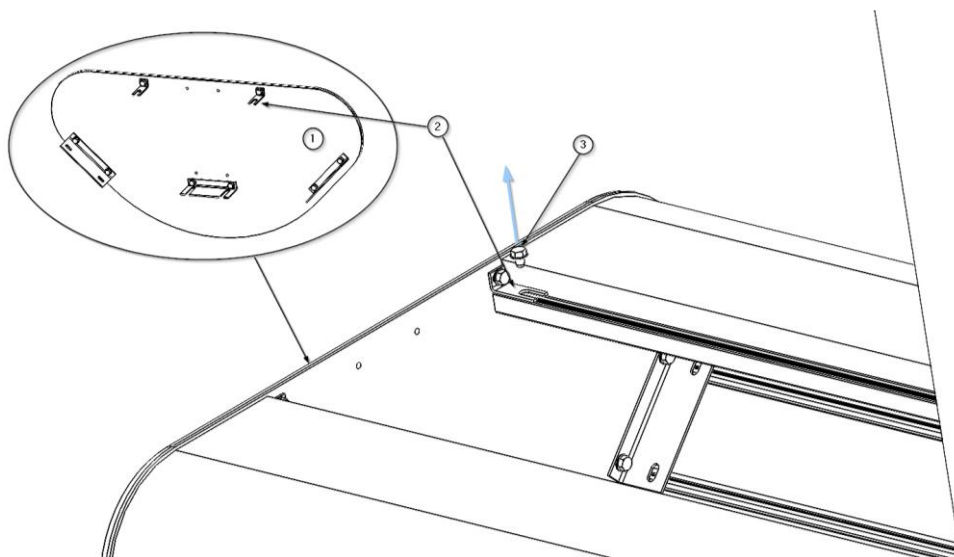

Fig. 42 Disassembly/assembly of end caps on ARES main body
- Using a hexagonal tool, remove the 8 M4 x 6 screws ③ securing the 5 side flanges ② of the side wall ①, as shown in figure 42.
- Carefully remove the side panel ① and place it in a safe place.
- First attach the end cap ① by supporting the side tabs ② in the threaded slots of the main body and secure it with the 8 M4 x 6 screws ③.
- Check that the side wall ① is properly fixed.